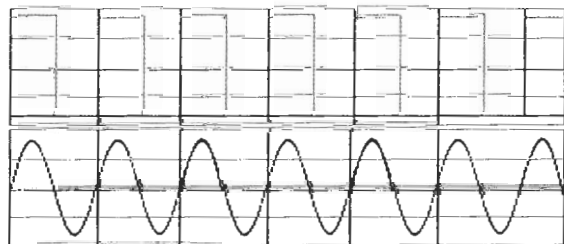

Figure L49-13
4. Reset the voltage to 200 mV **AC** but set your DMM to **V DC**. No matter how hard you try, you cannot get a measurement of DC voltage from an AC feed. Why doesn't the signal show any DC voltage? You've seen something similar to this before. Look at Figure L49-13.